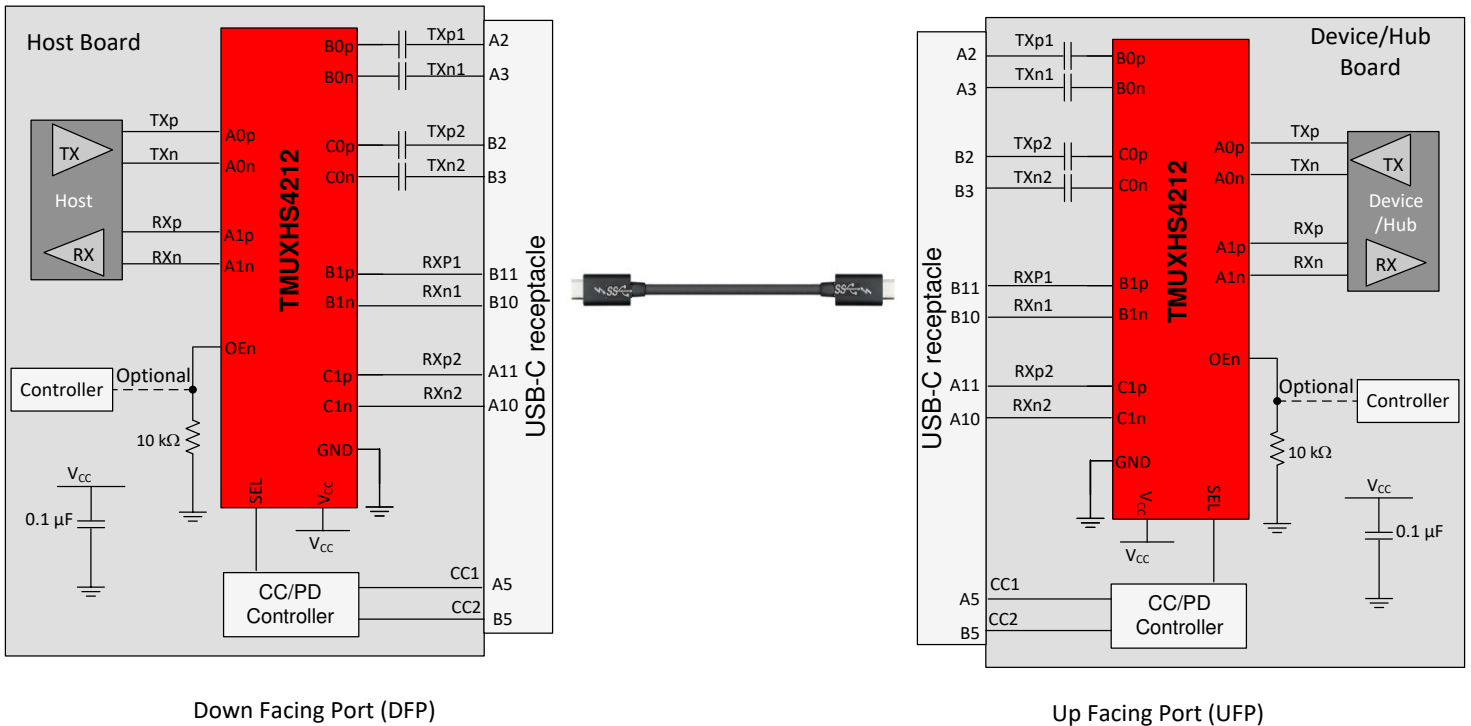

图 9-2. USB 3.2 Implementation for USB Type-C Connector
The TMUXHS4212 can be used in USB Type-C implementation to mux USB 3.2 superspeed signals (TX1 and RX1 pairs versus TX2 and RX2 pairs) to accommodate plug flips. In typical use cases, the mux selection is done by a USB Type-C Channel Configuration (CC) or Power Delivery (PD) controller. The device can be used on a USB Type-C DFP, UFP, or DRP port. 图 9-2 shows two USB Type-C connector applications with both a host and device side. The cable between the two connectors swivels the pairs to properly route the signals to the correct pin. The other applications are more generic because different connectors can be used.
R_{BIAS} (图 9-2) when needed	1 k Ω to 100 k Ω